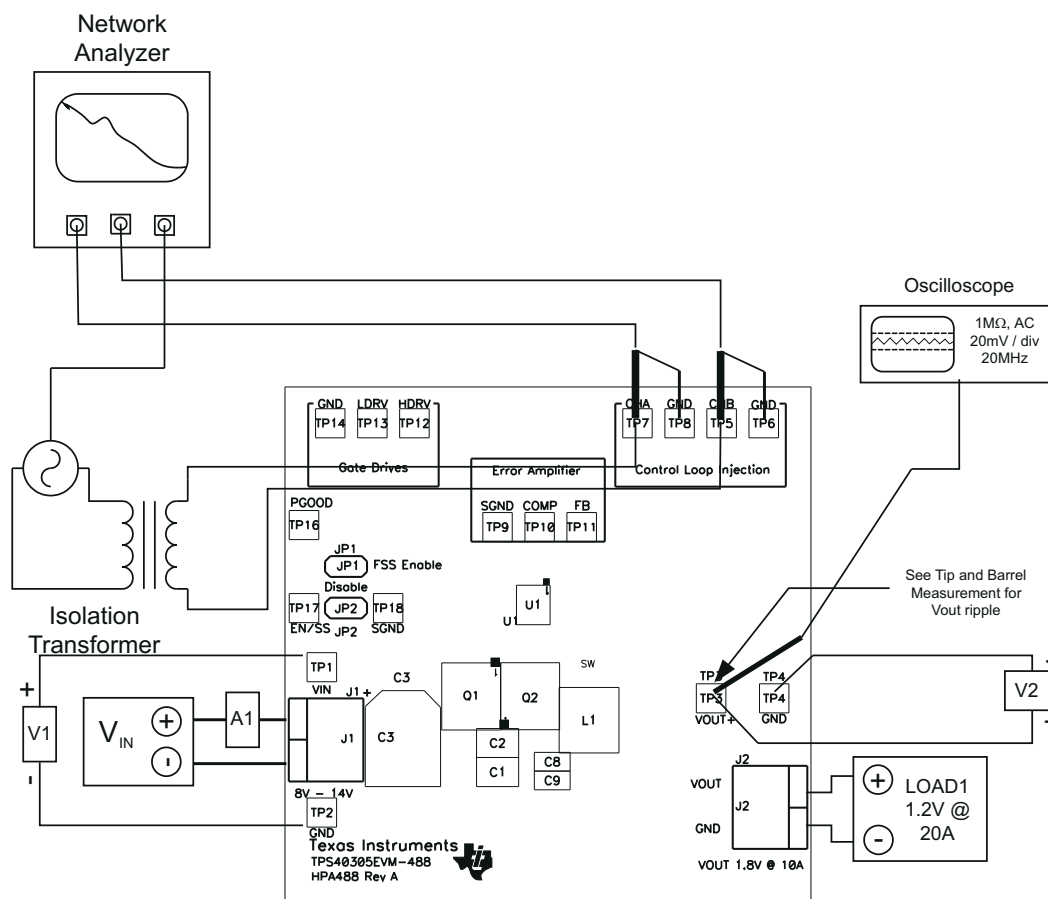

Figure 5-3. Control Loop Measurement Setup
The TPS40305EVM-488 provides four test points (two signal and two ground) for measuring the control loop frequency response. This allows the user to measure the actual module loop response without modifying the evaluation board. A transformer isolated signal up to 30 mV can be injected between TP5 and TP7. The injected signal amplitude can be measured by the AC coupled amplitude at CHA (TP7) and the resulting output voltage deviation can be measured at CHB (TP5). See Figure 5-3 for additional detail.
2. Connect a 1-kHz to 1-MHz isolation transformer to TP5 and TP7 as shown in Figure 5-3.
3. Connect input signal amplitude measurement probe (channel A) to TP7 as shown in Figure 5-3.
4. Connect output signal amplitude measurement probe (channel B) to TP5 as shown in Figure 5-3.
5. Connect ground lead of channel A and channel B to TP6 and TP8 as shown in Figure 5-3.